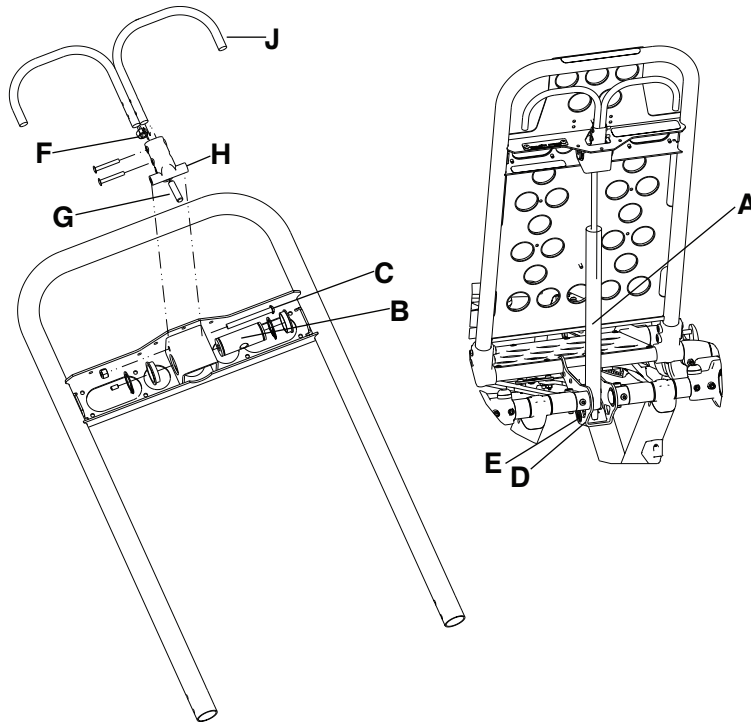

Figure 5 – Backrest
2. Verify that the cylinder (A) is threaded into the yoke (B) so that no threads are visible on the cylinder shaft (Figure 5).
3. If threads are visible, complete the steps a - e below (Figure 5).
- a. Using a 3/32" hex wrench, remove the set screw (C) from the center of the yoke.
- c. Thread the cylinder shaft (A) into the yoke (B) until no threads are visible on the cylinder shaft.
- e. Using **Loctite®**, replace the set screw (C).
4. Using a 1/2" combination wrench, loosen the hex nut (F) on the backrest pivot (H) while you hold the set screw fixed in the pivot (Figure 5).
5. Using a 5/32" hex wrench, turn the set screw (G) until there is no play between the backrest release handle (J) and the pneumatic cylinder release button (Figure 5).
7. Lower the backrest to a 5-10 degree angle and release the handle. Apply approximately 50 lb of force to the end of the backrest. If the backrest drifts down, turn the set screw (G) counterclockwise (Figure 5). Repeat until the backrest does not drift down.
8. Using the 1/2" combination wrench, tighten the hex nut (F) while you hold the set screw fixed in the pivot.